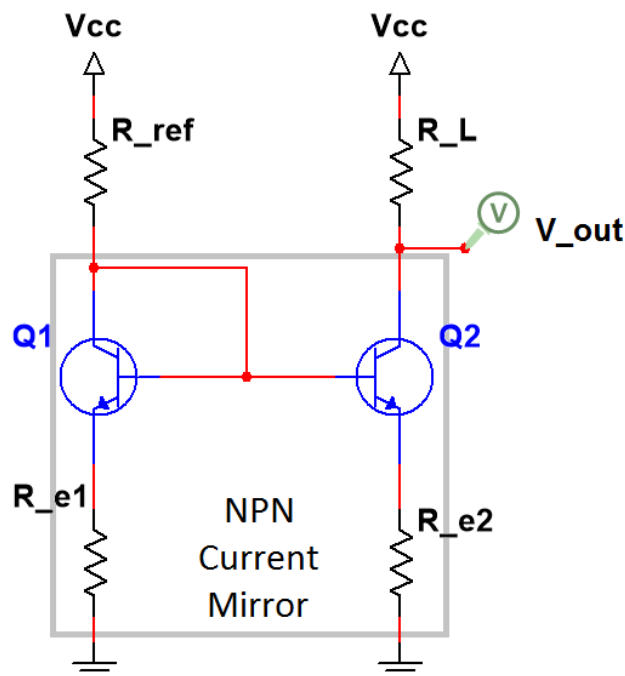

Figure 13: The Current Mirror and Test Circuit
An NPN current mirror with emitter degeneration resistors is shown in Figure 13. The emitter resistors, R_{e1} and R_{e2} , reduce the effect that mismatches in V_{BE} between the two discrete transistors have on the matching of the output current to the reference current. These resistors can also be conveniently used to alter the ratio between the two currents. Different permutations of this circuit exist which allow the mirror to operate at a wider output voltage range, or increase output impedance.
- Given the circuit in Figure 13, derive an equation for the output current (I_{out}) in terms of I_{REF} , V_{BE1} , V_{BE2} , β_1 , β_2 , R_{E1} , R_{E2} and V_{CC} .
Optionally, you may construct the NPN current mirror as shown in Figure 13. Test the circuit with a parameter sweep. The maximum and minimum loads must be the maximum and minimum loads picked out in the prelab. Measure the output voltage (V_{out}), and calculate the current flowing through the load resistor.
1. The current mirror of Figure 13 has already been constructed in the lab and attached to a 15 volt source and a Rohde & Schwarz Digital Oscilloscope. You must log into your assigned lab computer to access this lab equipment. Instructions on how to log into the lab computer and control lab equipment can be